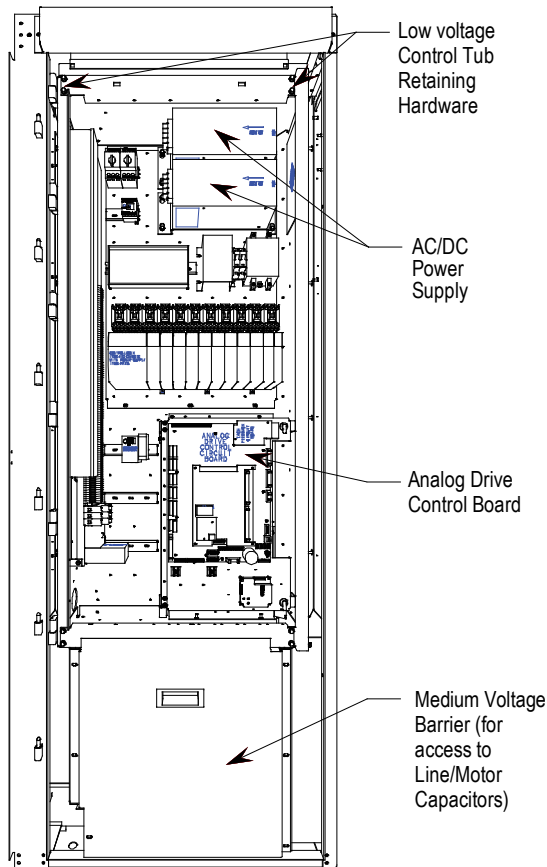

Figure 4.16 – DC Link and Fan cabinet with low voltage control tub shown
2. Remove medium voltage barrier below the low voltage panel to access capacitor. (See Figure 4.16).